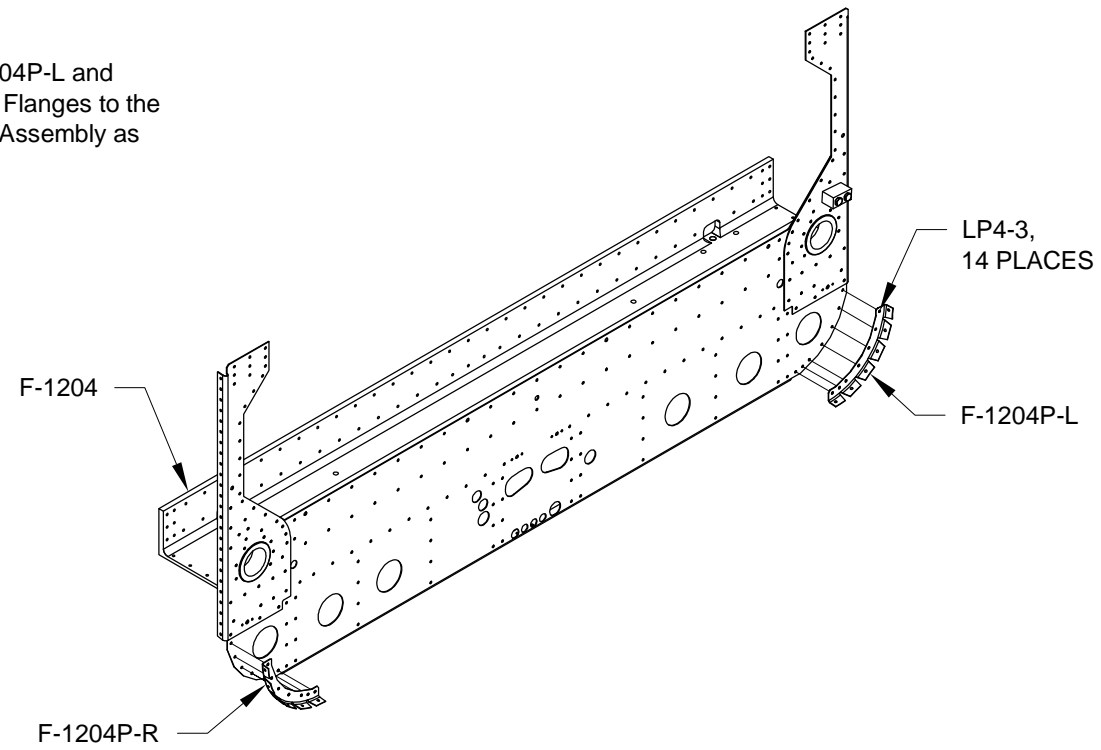

FIGURE 1: ATTACHING SKIN ATTACH FLANGES
Step 1: Attach the F-1204P-L and F-1204P-R Skin Attach Flanges to the F-1204 Center Section Assembly as shown in Figure 1.